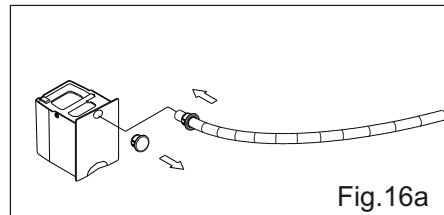
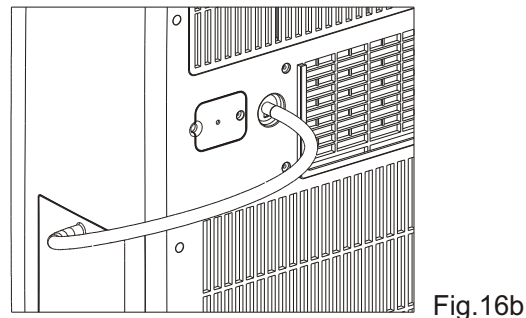

Fig.16a
Fig.16b
- 4) To drain off the water, remove the drain plug from the back of the unit and connect the drain hose; then attach the other end of the drain hose to the water tank as depicted in Fig.16a. Condensation starts to flow into the internal tank through the drain hose. Fig.16b. When the tank is full, the **LED** window will show "P1" and the **Water Full** indicator light start flashing. At this time the Dehumidifying process will immediately stop. However, the fan motor will continue to operate (this is normal). Carefully remove the water tank from the cabinet and dispose of the water. Replace the water tank back to it's original position (in cabinet) and the dehumidifying process will automatically resume. It may take 3-5 minutes for the compressor to re-start. This is normal.